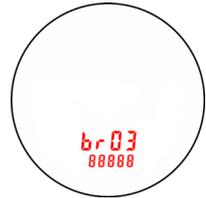

Figure 13
1. Looking through the eyepiece, press the  button. The display should look similar to Figure 13.